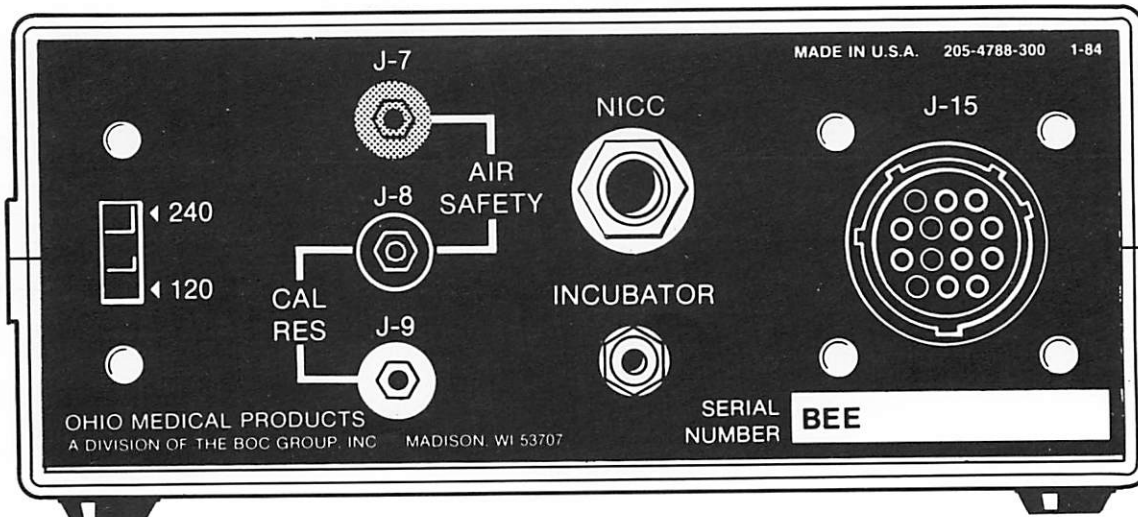

Figure 5-2
2. Connect the round 14-pin connector (P15) on the test cable to J-15 at the rear of the temperature simulator as shown in Figure 5-2.